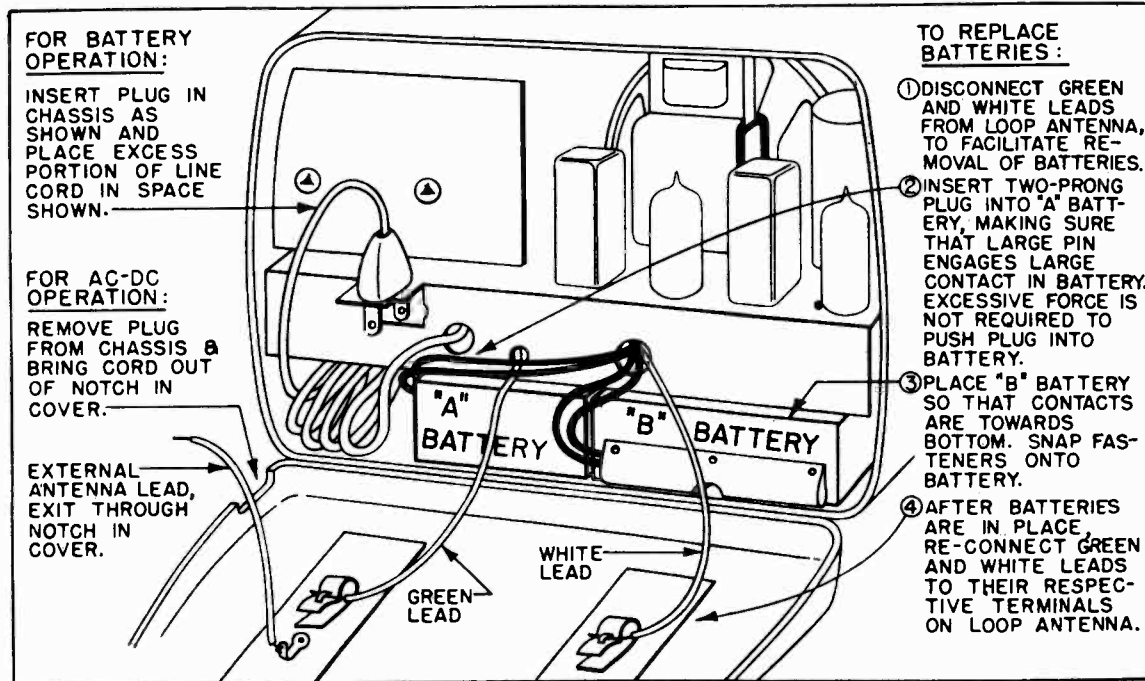

Figure 5—Battery Installation
2. Battery Operation: Remove the line plug from the outlet and insert in the receptacle at the rear of the chassis. The receiver will not operate from batteries if the plug is out of the chassis receptacle. Coil the loose portion of the line cord and store it carefully alongside the "A" battery underneath the chassis. (See Fig. 5)